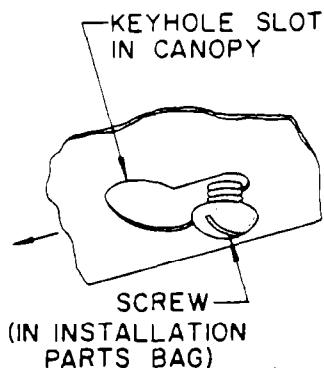

FIG. 2
7. Remove the hood and start all four screws in the center of the narrow neck of the keyhole slot marked on the cabinet bottom. See Figure 2.